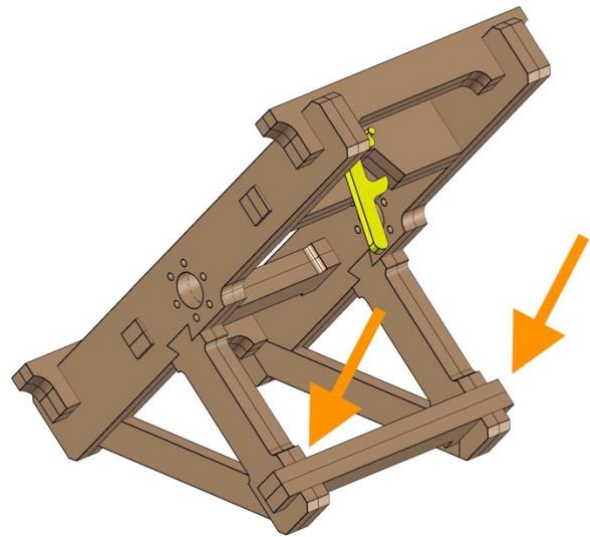

Fig. 22
- If needed, use a hammer or a piece of wood to push down on the part (*Fig. 22*).